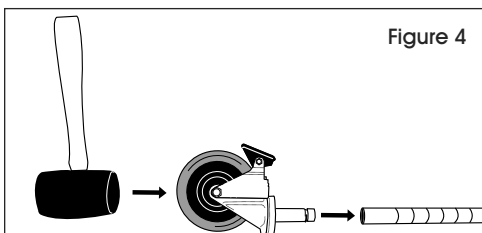

Figure 4
1. Make sure post is positioned as shown. (See Figure 4)
2. Engage the wheel brakes to keep casters from spinning during installation. Use a rubber mallet to tap caster stem into posts. (See Figure 4)